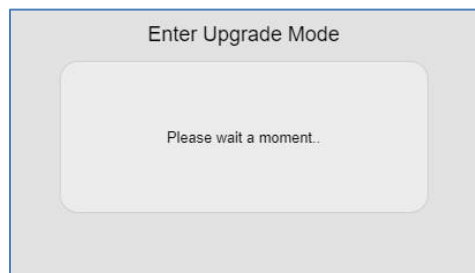

Figure 4.26 - Webpage Enter Upgrade Mode Page
- 4) Wait for a minute once Enter Upgrade Mode page appears as shown in **Figure 4.26**.